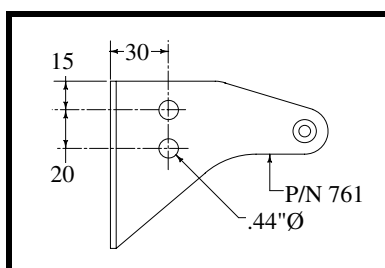

Figure 5
- ❑ Remove the left P/N 761 for the right rudder pedal torque tube and drill the two .44"Ø holes as shown in Figure 5. These holes are for MS35489-6 grommets for the 1/4"O.D. brake lines, which will be installed later.